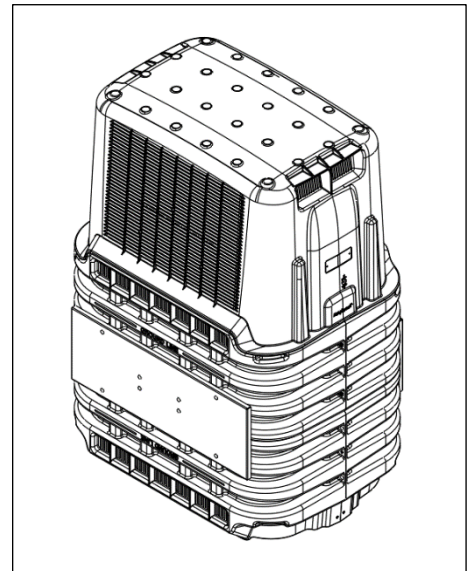

Figure 5 Complete Installation
5. Install the dome removed in step 1. The complete installation is shown in Figure 5.